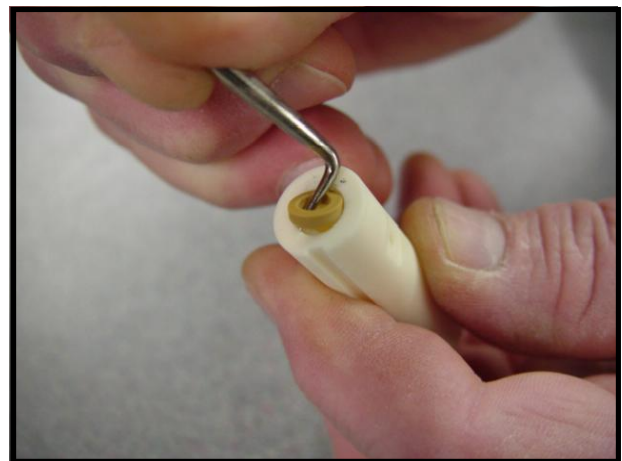

Figure 7.3 Spring Energized Lip Seal Removal
2. Remove piston/end cap fabrication (10) from cylinder (8) by slowly pulling and turning piston/end cap fabrication (10) while holding pump case (3).
3. Remove case end cap (1) from pump case (3) by turning in a counter clockwise direction.
5. Remove case end cap (6) from pump case (3) by turning in a counter clockwise direction.
6. Remove valve (7), valve retainer washer (5) and seal retainer washer (2B) from cylinder (8) by slowly pulling and turning valve/end cap fabrication (7) while holding pump case (3). If seal retainer washer (2) does not come out with valve/end cap fabrication (7), remove now.
7. Gently push cylinder (8) with spring energized lip seals (4 and 9) out of pump case (3).
8. Carefully remove spring energized lip seals (4 and 9) from cylinder (8) without damaging cylinder (8). (Refer to Figure 7.3)